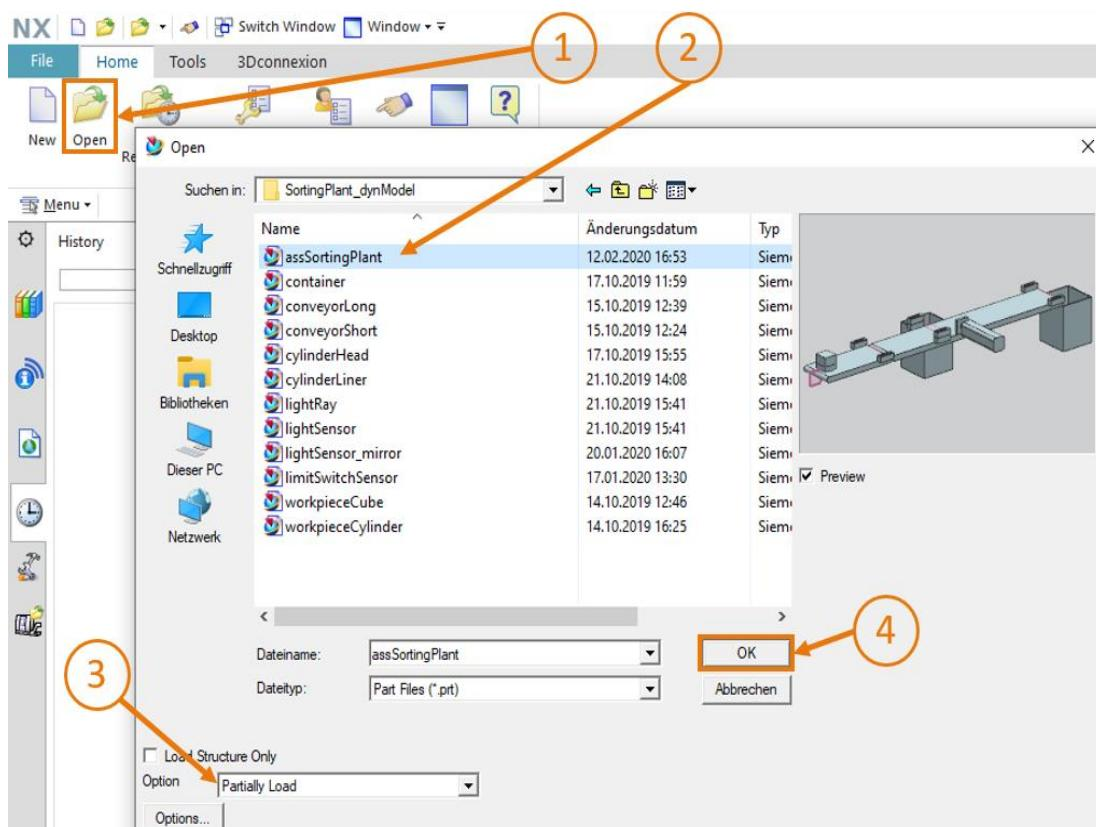

Figure 6: Opening an assembly in NX
- Start NX and wait until the program opens and you see the Home page. Click the "Open" button (see Figure 6, step 1) and navigate to the folder you created beforehand. You now see the parts created in Module 4. Select the "assSortingPlant" assembly, which contains the complete static 3D model of the sorting plant (see Figure 6, step 2). Select the "**Partially Load**" option (see Figure 6, step 3) so that only the models of the individual components of the assembly are loaded but not any additional drawings or coordinate systems. Confirm your selection by clicking the "**OK**" (see Figure 6, step 4).